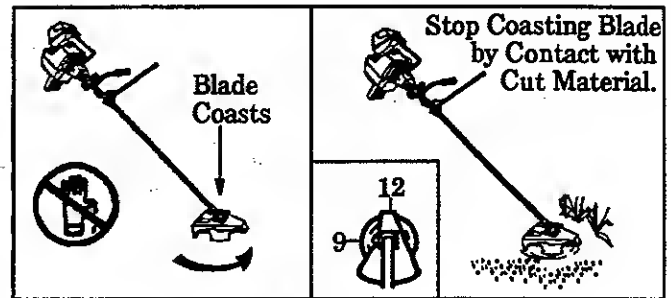

Figure 13
- c. Stop the blade by allowing the "9 o'clock" position to contact cut material. Figure 13 (inset).